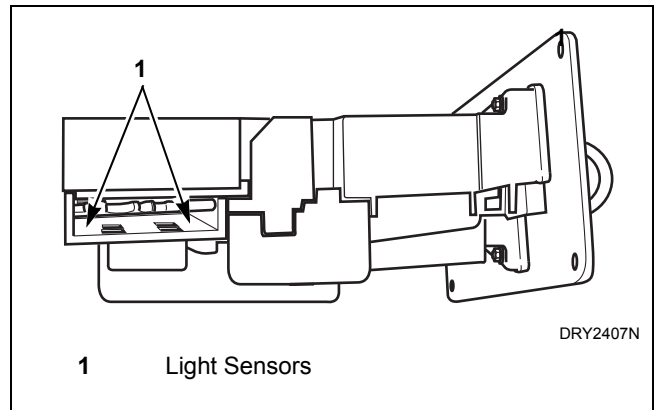

Figure 10
6. Clean light sensors with a soft brush or air spray duster. Refer to *Figure 10*.